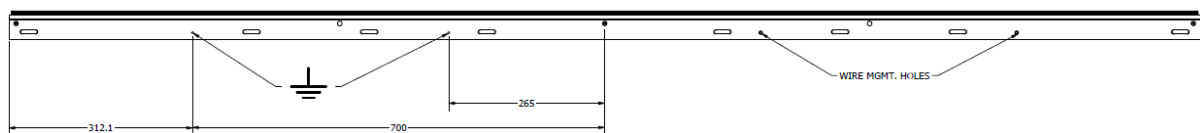

Figure 11: Grounding Hole & Wire Management Hole Detail from Frame Center
- Utilize marked grounding holes (see Figure 11) in frame. Where using common grounding hardware (lugs, nuts, bolts, star washers, split-ring lock washers, flat washers and the like) to attach a grounding/bonding device, the attachment must be in conformance with the grounding device manufacturer's instructions. Grounding/bonding devices must meet the IEC/UL 61730-2 the pass/fail criteria of a 100 mΩ resistance.